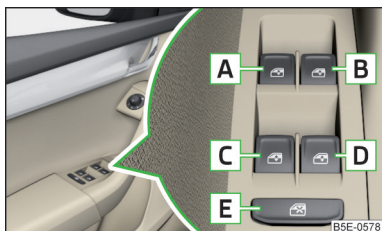

Fig. 42
Electric window buttons » Fig. 42
- After the driver or front passenger door is opened, the operation of the window is only possible with the button **A** » Fig. 42, in which case this is pressed or pulled for approx. 2 seconds.
- **or:** Switch off the ignition, open the driver's door and hold the key  until it stops in the open position » Fig. 42 on page 60.
- **or:** Switch off the ignition, open the driver's door and press and hold the button  until the window stops in the closed position » Fig. 42 on page 60.